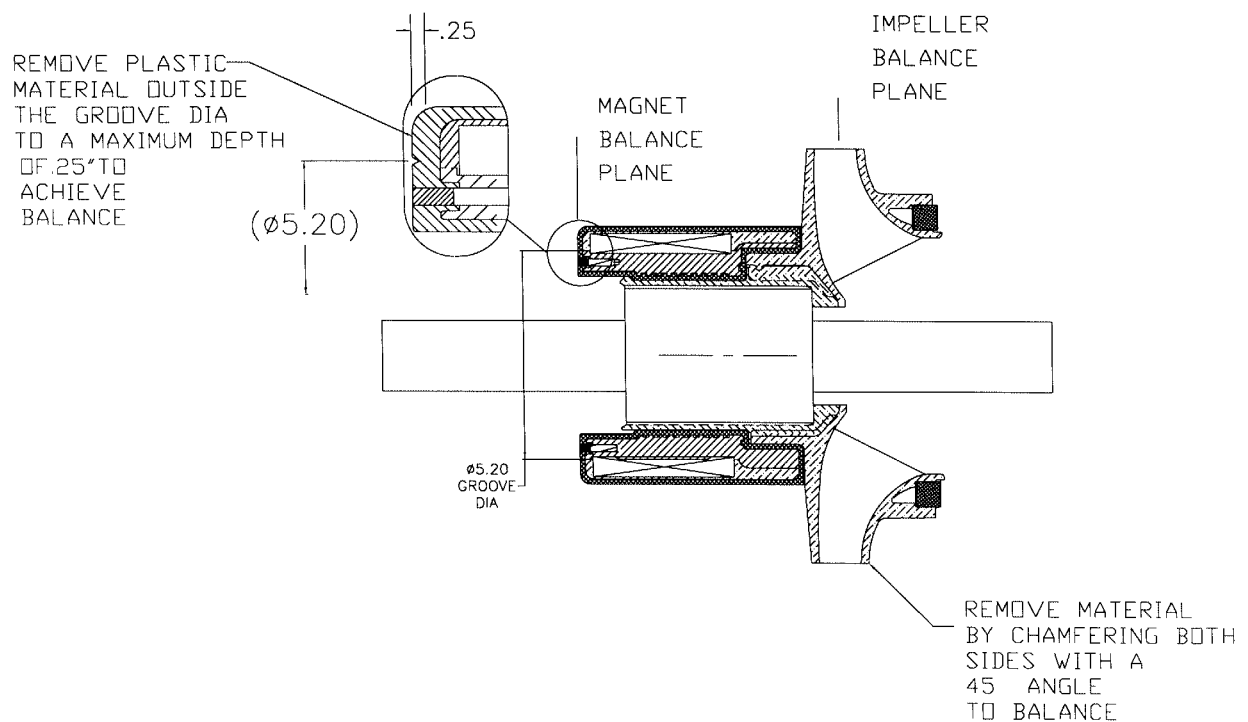

Fig.10-3: KF impeller mounted on balancing arbor
4. Balancing is accomplished by removing plastic material from the back of the inner magnet assembly and from the impeller shrouds. The inner magnet assemblies have additional (ETFE) plastic added to the back face solely for the purpose of balancing. **See Figure 10.3** Up to 180° of arc or approximately 18 g-in (470 g-mm) can be balanced by removing material. If the impeller shows an initial unbalance of more than 18 g-in, remove it from the arbor. Remove the magnet from the impeller and re-assemble at a different orientation of the polygon. Proceed with balancing. Blend the ends of the removed sections to minimize turbulence and solids accumulation.